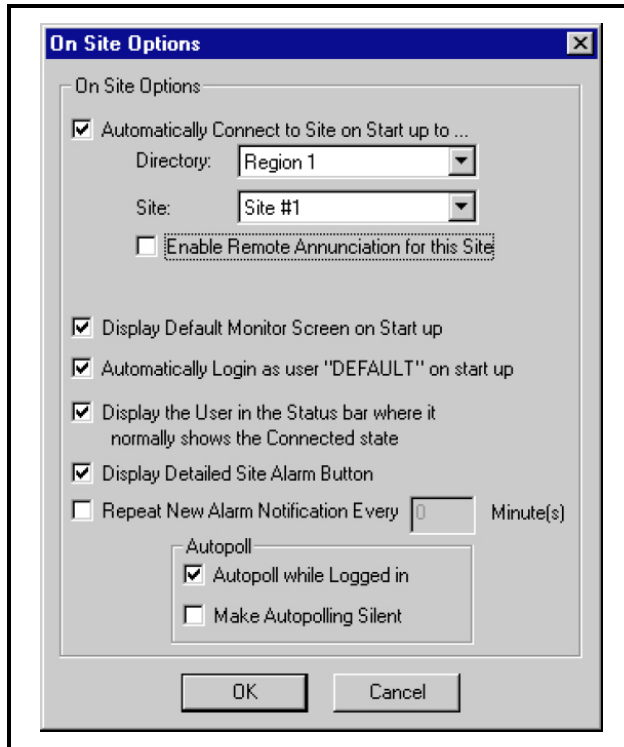

Figure 2-8 - On Site Options
- If UltraSite will be used on-site to communicate using direct connect or network, check the Enable On Site Options box (*Figure 2-8*), and click the Advanced Options button to call up the on-site options box.